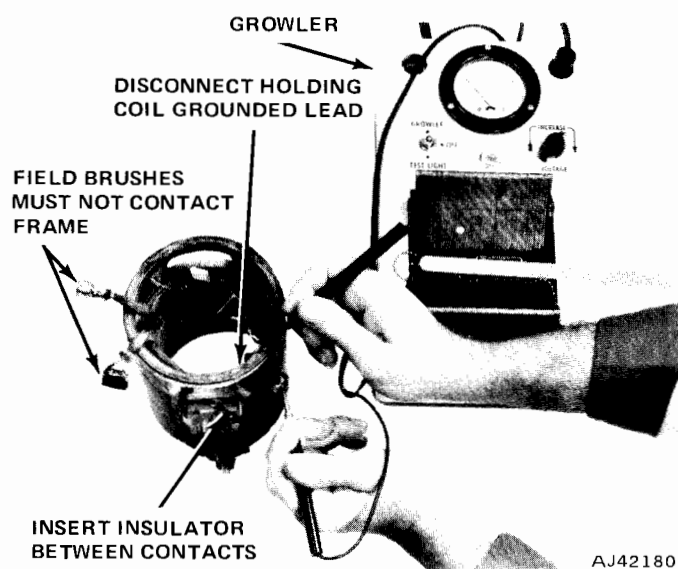

Fig. 3-44 Field Grounded Circuit Test
(3) Insert a piece of paper between solenoid points. Starter is now ready for testing (fig. 3-44).
(4) Connect one test prod to terminal screw and the other prod to starter frame. Test lamp should not light. If lamp lights, field windings are shorted and must be replaced.